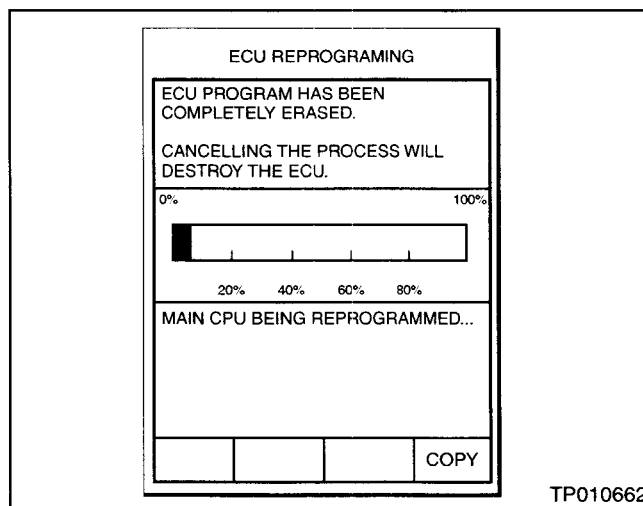

Figure 12
42. Press "**START**". After a moment the window shown in Figure 12 will appear. CONSULT-II will now turn off its screen backlight and reprogram the TCM.